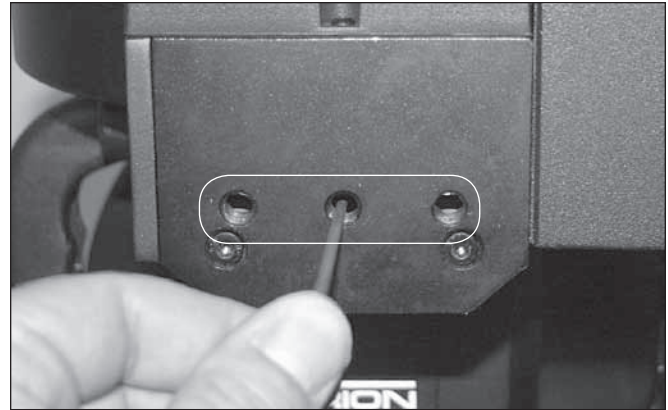

Figure 26: Completely remove the three cosmetic cover screws on the front plate and set them aside.
8. Now with the same Allen key completely remove the three cover screws on the front of the DEC housing (**Figure 26**). These screws are cosmetic only. Once they are removed you will be able to get to the Allen screws inside the housing, which are the ones used to actually adjust the gear mesh.